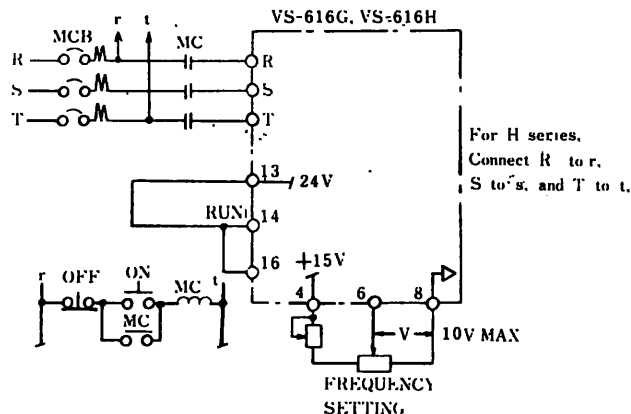

Fig. 6.13 Start and Stop Sequence for Relay Sequence
(3) Starting and stopping by relay sequence (Fig. 6.13)